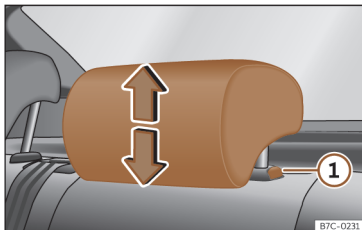

Fig. 82 Rear headrest: adjusting the headrest.
- Grab the sides of the head restraints with both hands and push upwards to the desired position. To lower it, repeat the same action, pressing the button on the side ① >>> **Fig. 82**.